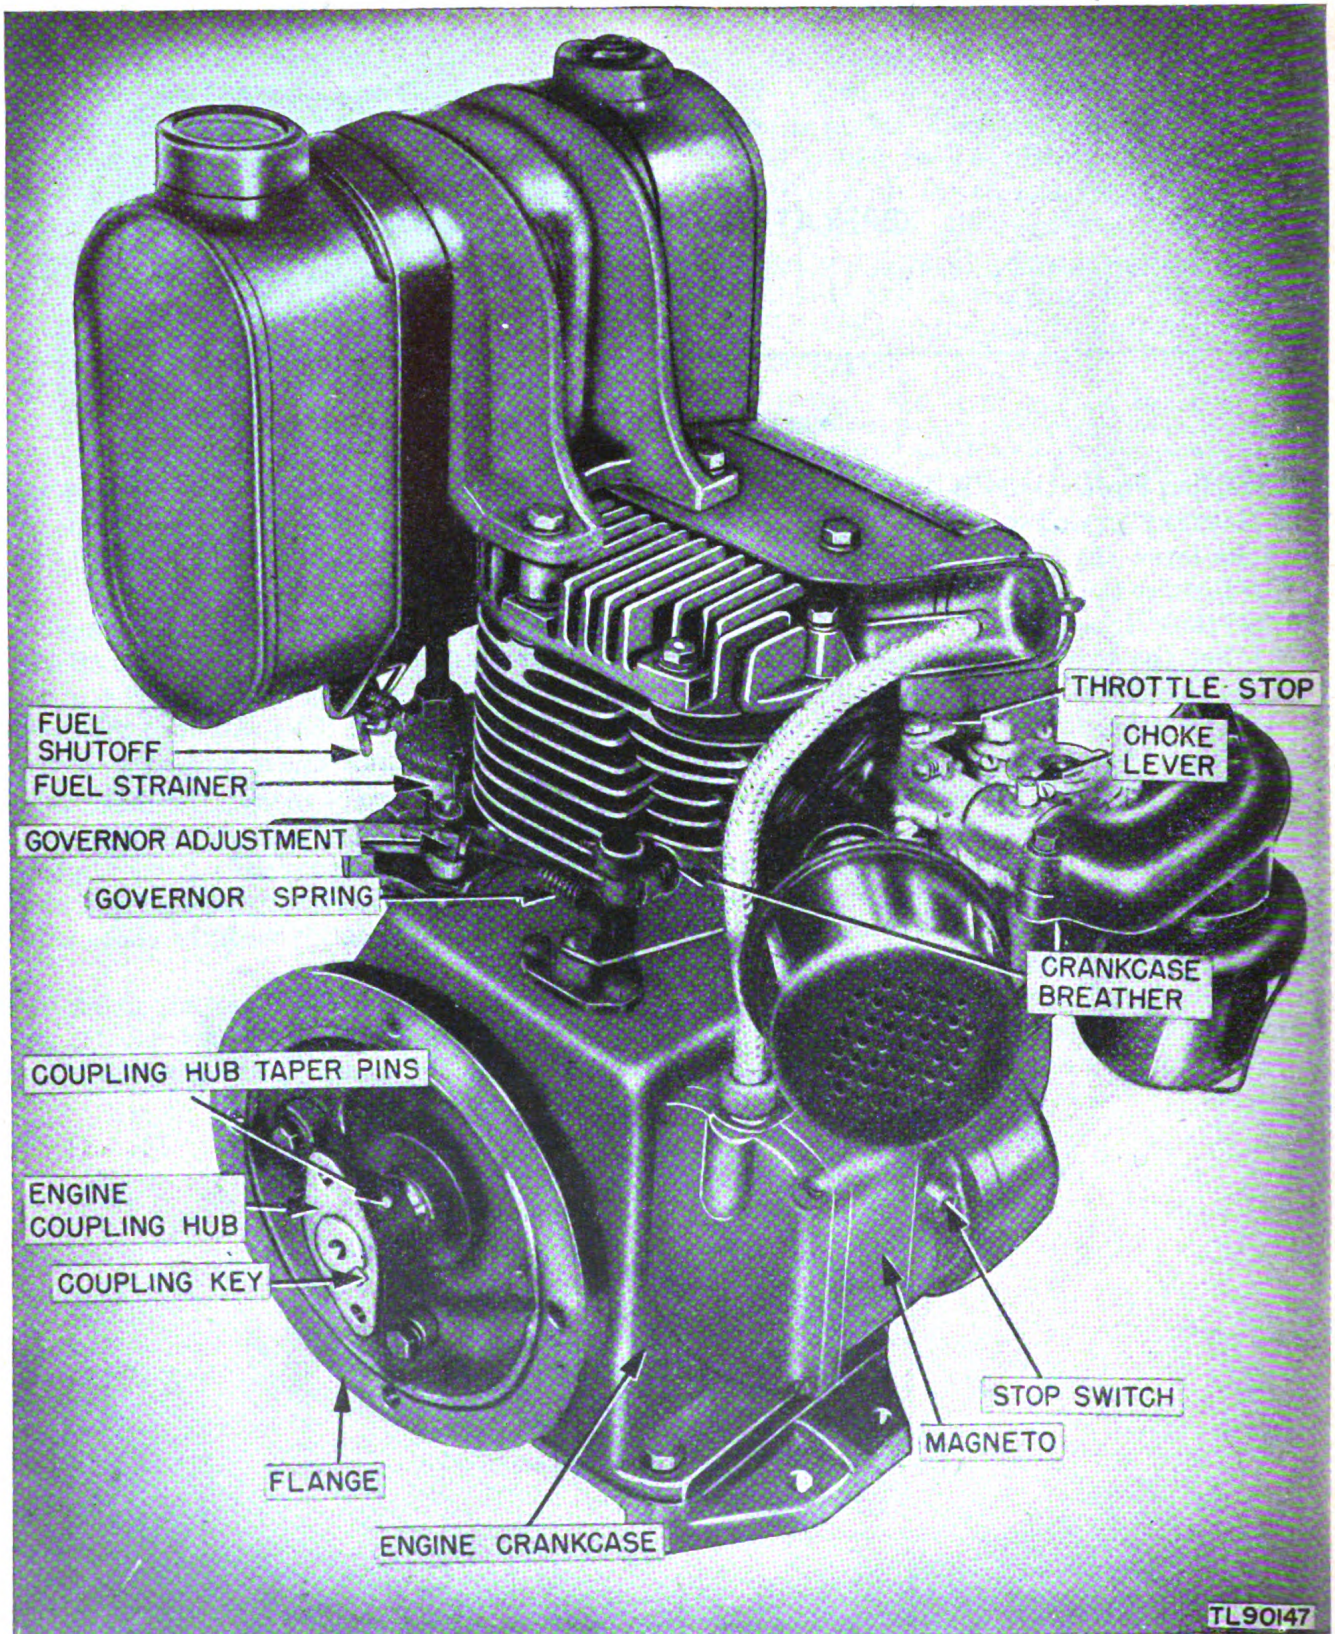

Figure 26. Engine GE-9-D or GE-9-F.
a. BATTERY STARTING. (1) Set the carburetor-choke lever (fig. 26) in the closed position.
(3) Set the throttle-stop lever (fig. 26) so that the throttle is in a half-open position.